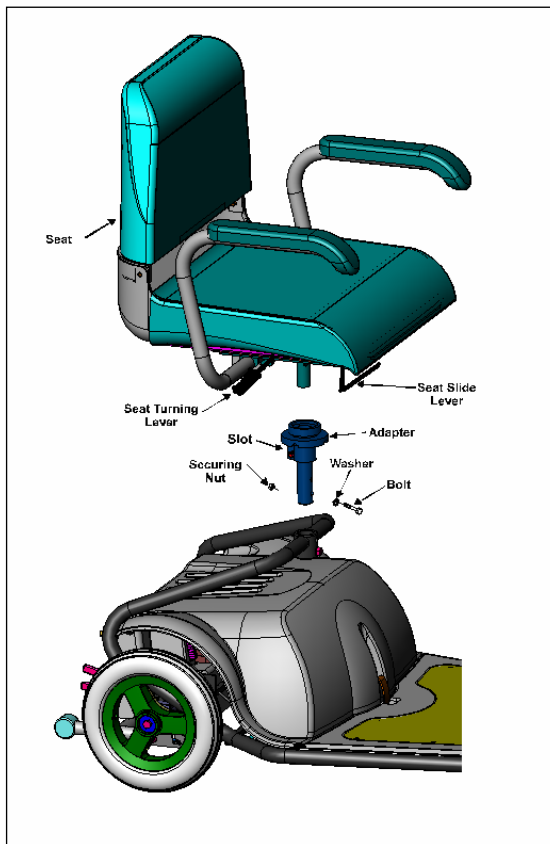

Figure 11
## 2.5 Seat Installation (Figure 11)
- a. In the **High** speed mode (marked by the "hare" symbol next to the **Speed Selector** switch) the maximum attainable speed is 7.5 km/h (4.6 mph) When selector is in **High Speed Mode** – Green light of switch is ON. (See **Fig. 11**).